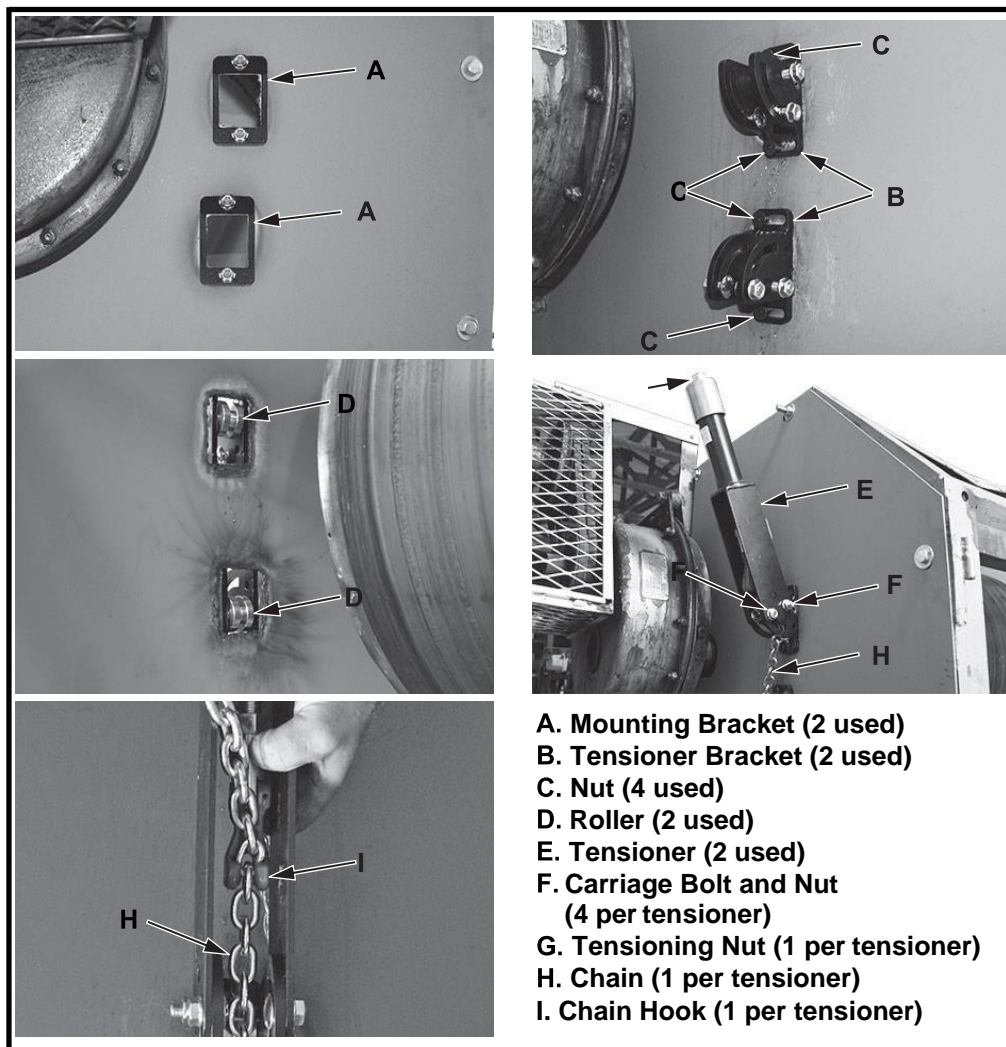
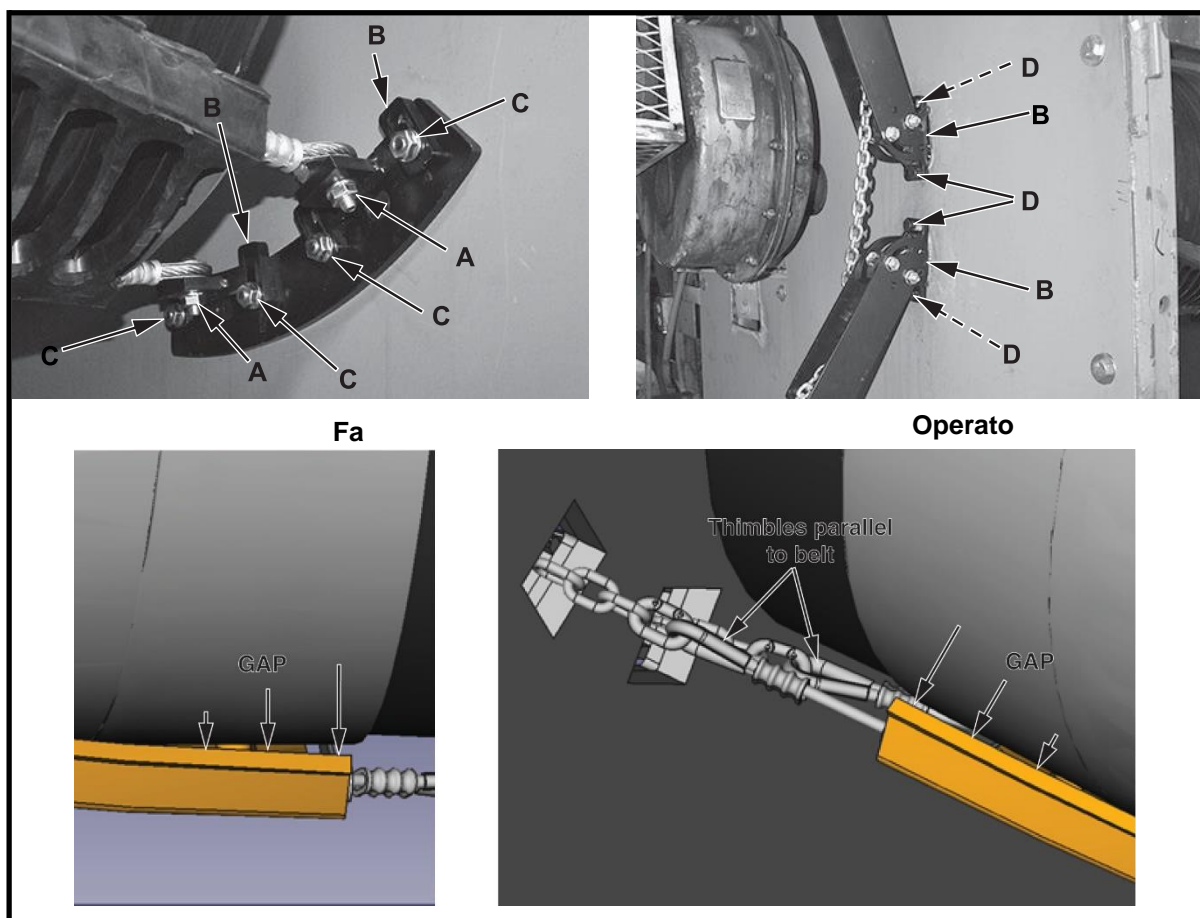

Figure 8: Installing Tensioners
Figure 9: Positioning Cleaner
- f) Center mounting brackets (A) on cutouts and weld to chute wall (see Figure 8).
- g) Mount tensioner brackets (B) onto mounting bracket using nuts (C). Hand tighten nuts. Position top bracket with roller (D) in the upper position and bottom bracket with roller (D) in the lower position.
7. Mount tensioner (E) onto bracket using carriage bolts and nuts (F).
8. Position tensioner in desired location free from obstructions and tighten nuts (F).
9. Loosen nut (G) to the end of the threaded rod.
11. Route chain (H) through chute wall and tensioner bracket.
12. Pull chain into hook (I).
14. Ensure thimbles are parallel to belt (Figure 9).
15. Tighten tensioner nut (G) until center of cleaner is held firmly against head pulley.
16. Make sure each chain contacts roller in tensioner bracket (B) properly.
- a) If threaded spindle is not long enough to achieve desired tension (see Figure 8):
- (1) Insert screw driver through hole in the lower part of the tensioner and chain (H), to secure the chain.
- (2) Loosen tensioning nut (G) to release tension.
- (3) Reinstall chain in hook (I) as close to the screw driver as possible.
- (4) Tighten tensioning nut until required tension is achieved.